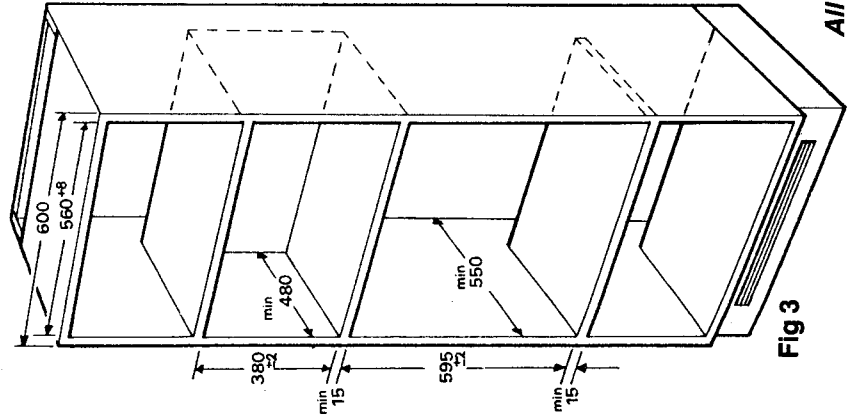

Fig 3
- c. Figures 3 and 4 below are given for planning guidance only. For full details please refer to the instructions supplied with the 6070B/W built in kit.